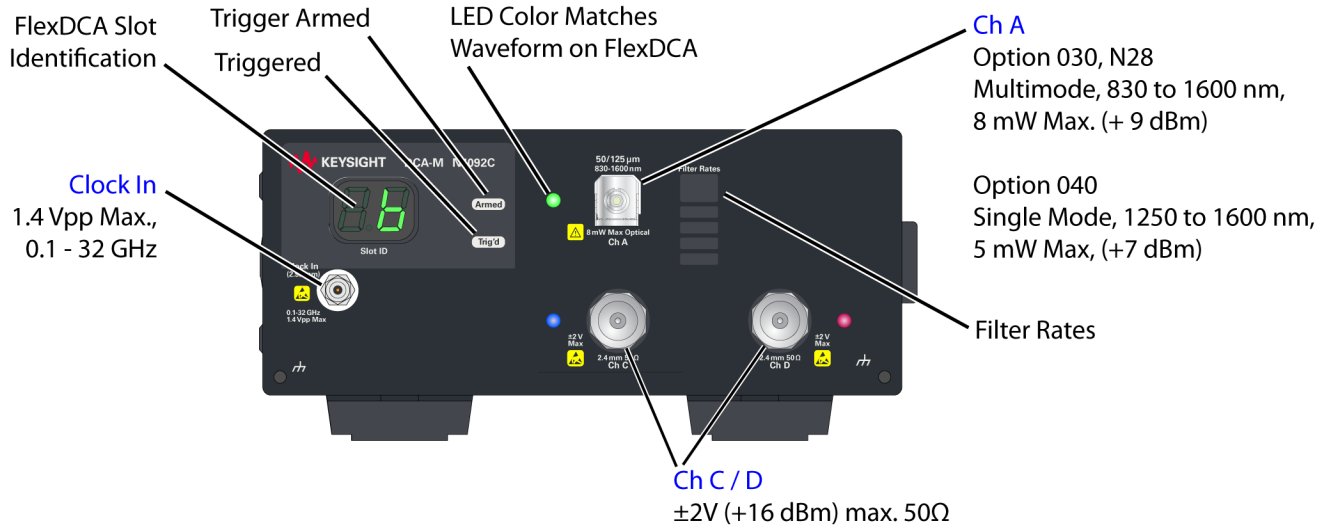

Figure 11. N1092C Front Panel
- *Figure 11, N1092C Front Panel*, on page 34